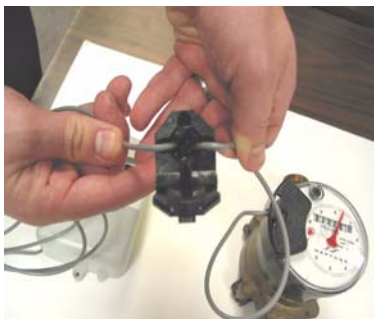

Figure 7 Gray Wires in Slots
- 2 Separate each gray wire and place in the slots on each side as shown in Figure 7.